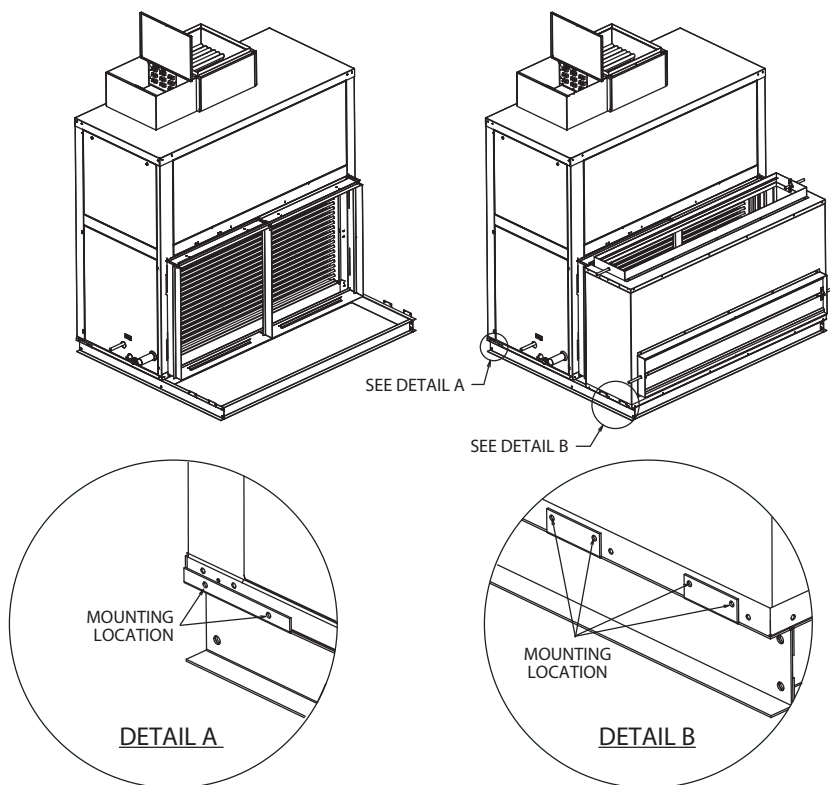

Figure 7. Vertical Units with Mixing Box Option
3. Place unit on the base rails. Then install mixing box and attach to base rail using the #8 x 1/2" fasteners at the locations shown in Figure 7 and 8.